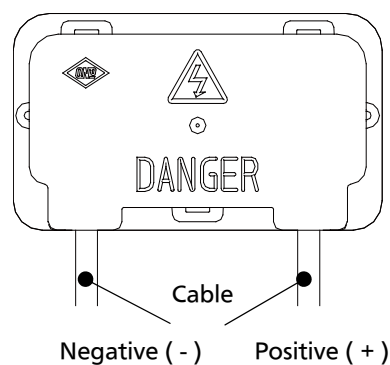

Figure 4.2 Junction Box
- Each terminal is dedicated to one polarity with the polarity symbols engraved onto the body of the junction box (see Figure 4.2).